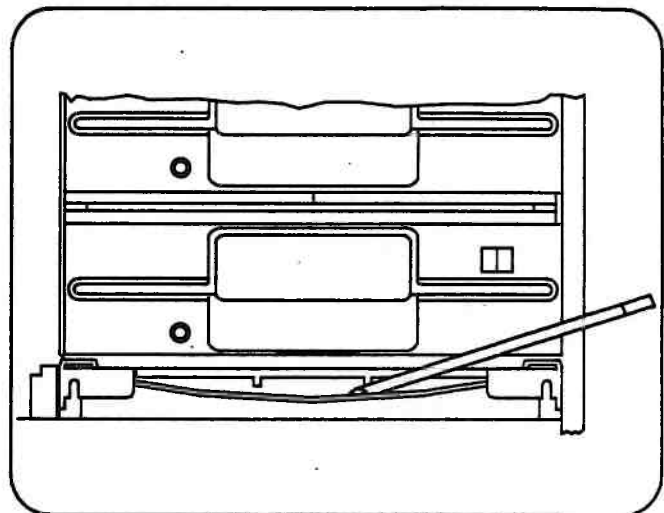

Figure 5-50. Unlocking the Drive Assembly
4. Using a screwdriver, push down the metal bar below the MFD Units assembly and slide the assembly forward to gain access to the signal and power cables (Figure 5-50).